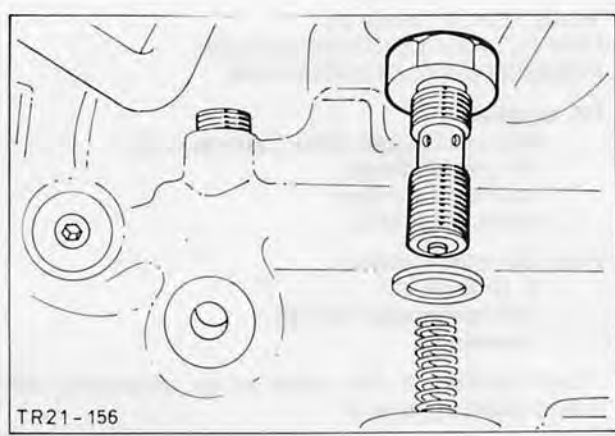

Fig. 65. Fit oil pressure switch
- 39. Fit oil pressure switch. Lubricate oil pressure valve tappets and fit valve assembly, Fig. 65.